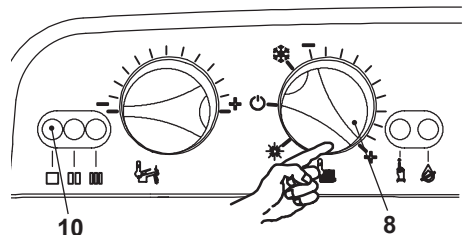

Fig. 7.7
- Turn the boiler ON positioning the control selectors 8 in the positions as shown in as in Fig. 7.7 and ensure that the timer selector switch and room thermostat, if fitted, are set to "heat demand".
- Watch the gauge and check to see if the ignition pressure registered corresponds to the values as given in the Technical Data. Turn off the boiler and reignite it by turning the function selector 8 to the OFF position and then back to that indicated in Fig. 7.7.